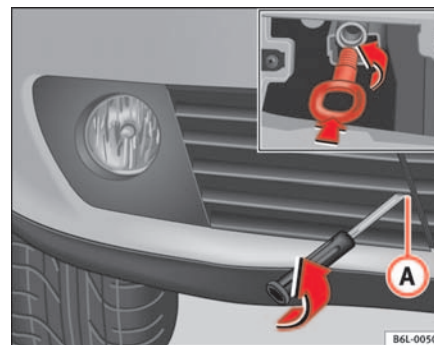

Fig. 161 Towing eye at the front of the vehicle
- Extract the bolt  ⇒ page 217, fig. 161.